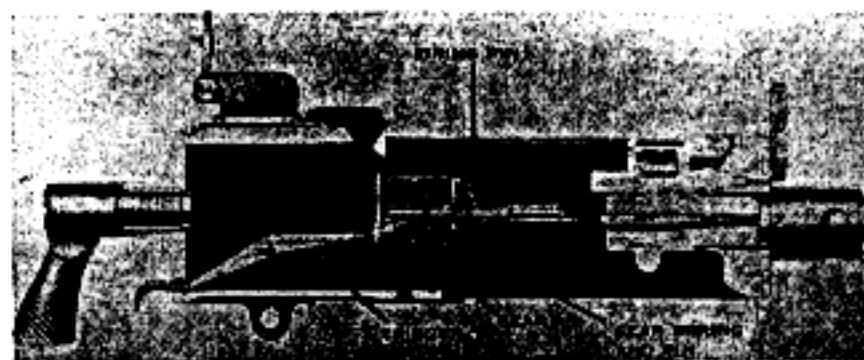

Figure 64. Gun cocked and ready to fire.
- (1) The shoulder of the firing pin is engaged in the sear notch, the sear being held up by the action of the sear spring (fig. 64). The firing pin spring is held compressed between the sear spring pin and the firing pin spring pin. The trigger cams and the sear cams are engaged and are in position to release the firing pin when the trigger is raised.